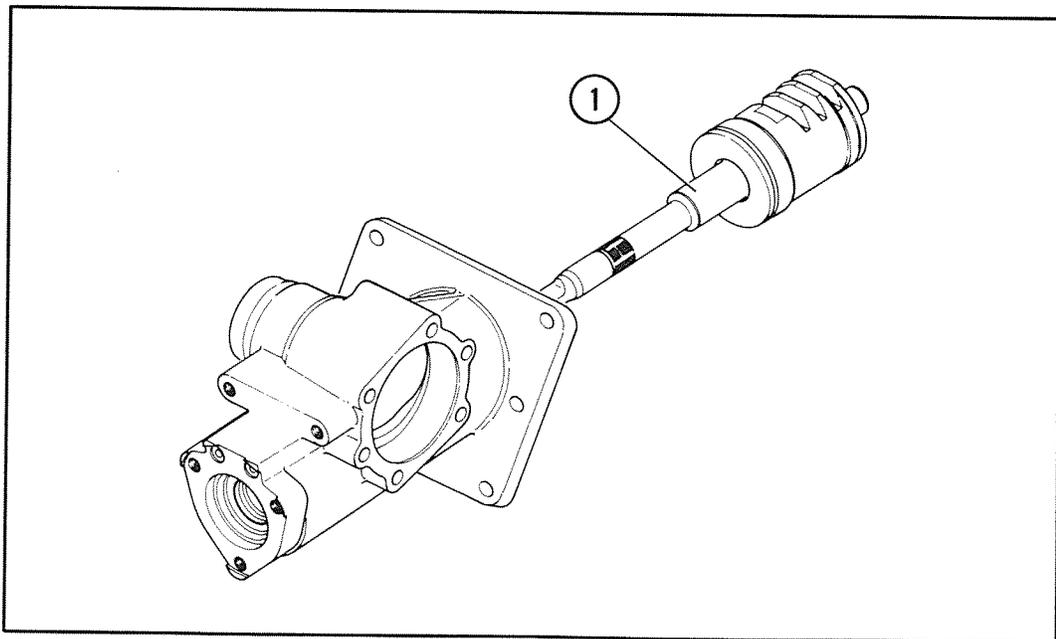

Figure 37
13. Remove the ball nut assembly (1), Figure 37, from the steering case, Figure 37.